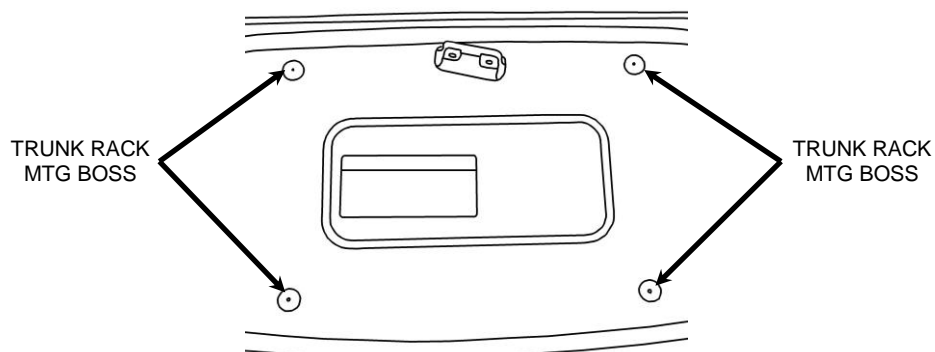

FIGURE 1
2. Find the 4 mounting bosses on the underside of the trunk lid. These are the drill locations for the rack. See **FIGURE 1**.